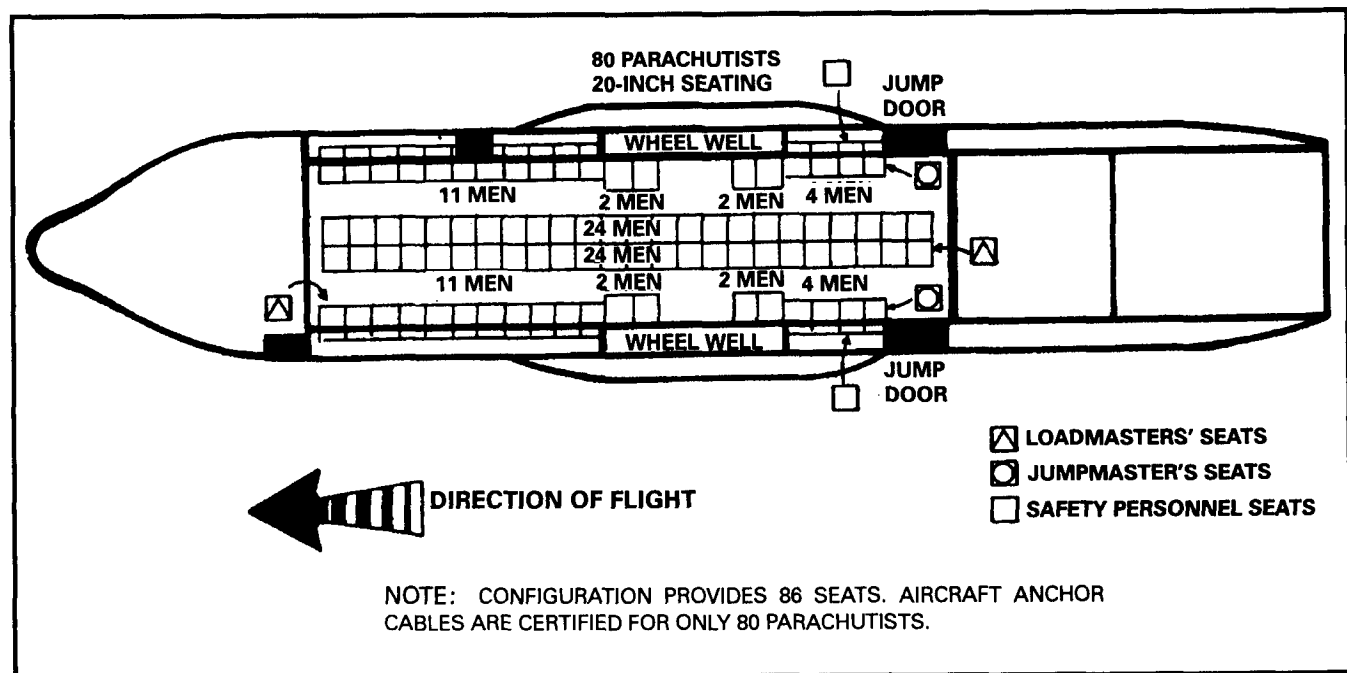

Figure 16-7. C-130 combat concentrated load.
b. **Loading Procedures and Seating Arrangement.** The aircraft is configured to provide 19 outboard seats and 21 inboard seats with seat belts installed on 20-inch centers (Figure 16-7).